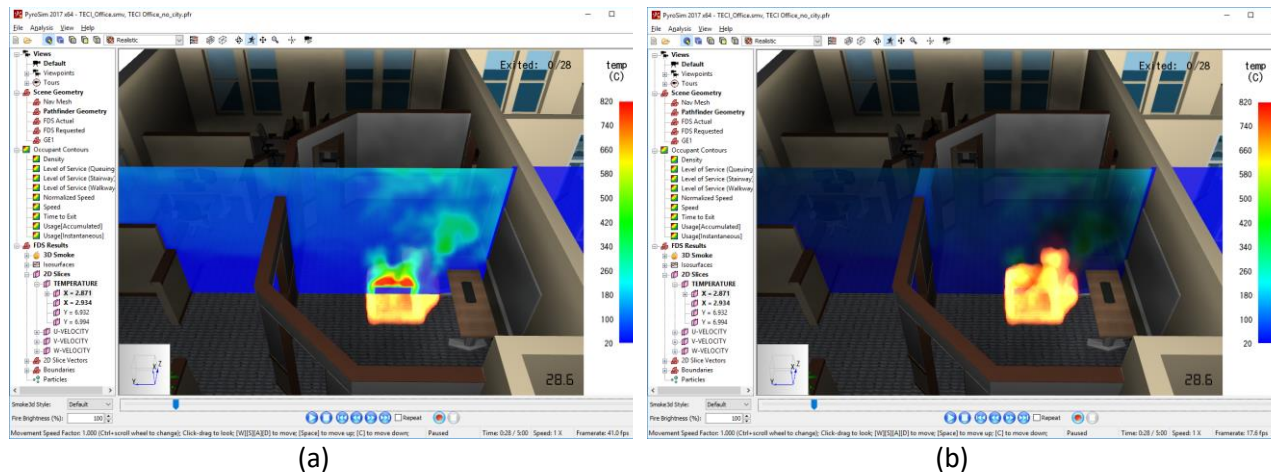

Figure 7-7: 2D slices obscure smoke option (a) enabled (b) disabled
- **Types that obscure smoke:** Controls which results types appear easily on top of smoke when both are active. When this option is enabled, the result object will be easier to see when it is embedded in thick smoke, but the depth cues may be more difficult to understand. Figure 7-7 shows this option enabled and disabled for a 2D Slice.